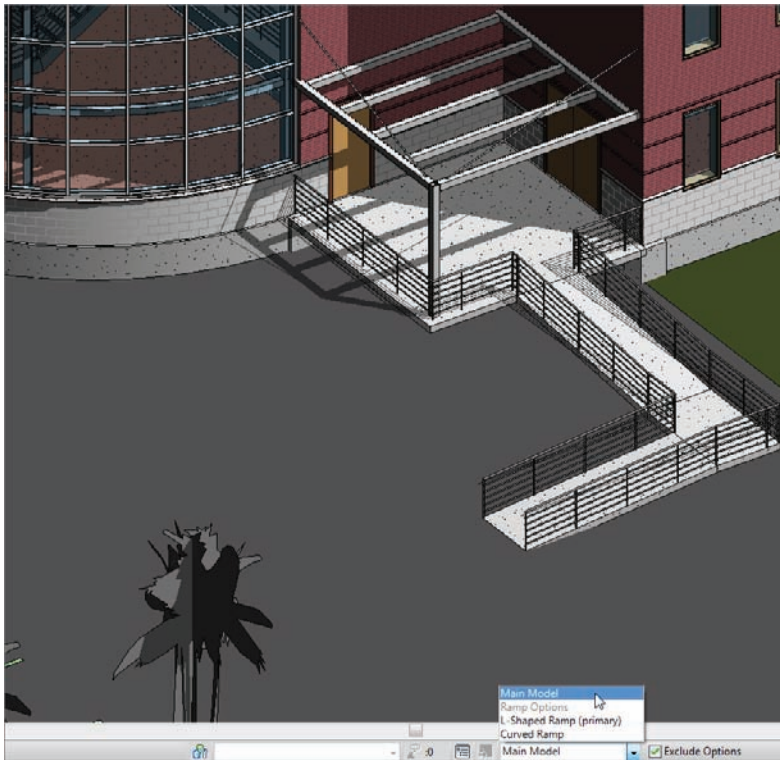

FIGURE 21.14 Switching back to Main Model
3. Change the option back to Main Model, as shown in Figure 21.14.